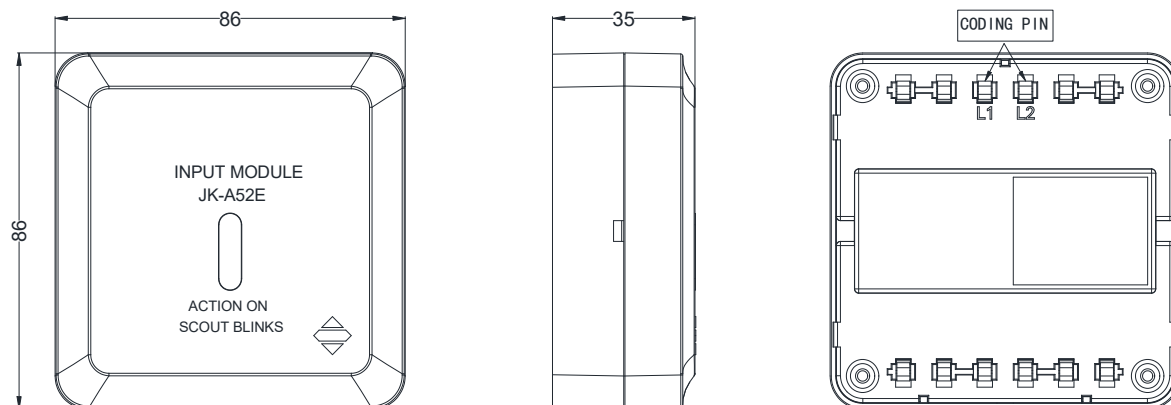

Figure 1 Main body of JK-A52E module (Unit: mm)
- 5.2 Clamp the output end of the encoder to the rear cover L1 and L2 (regardless of polarity) as shown in Figure 1, set the encoder to the encoding function, and set the correct address, press the execute key to complete the address encoding;